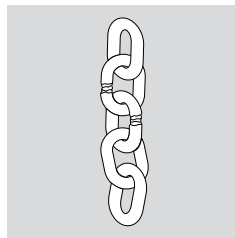

Fig. 13.1: Deformations
- Deformations on suspension, chain or other attachment elements (Fig. 13.1)